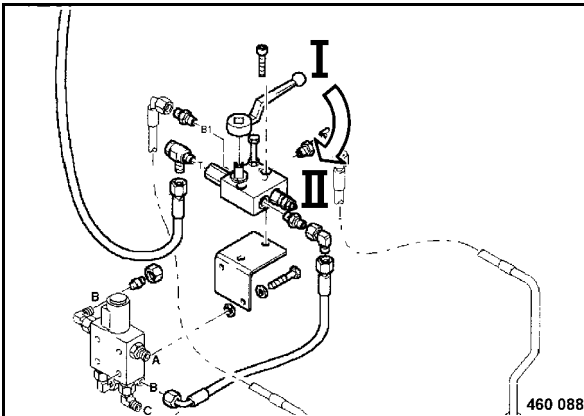

Fig. 70
- Unscrew the locking bolt (Fig. 70).
Switch the ball valve (Fig. 70) back to position "II", turn the locking screw back in and counter it with the hexagon nut.